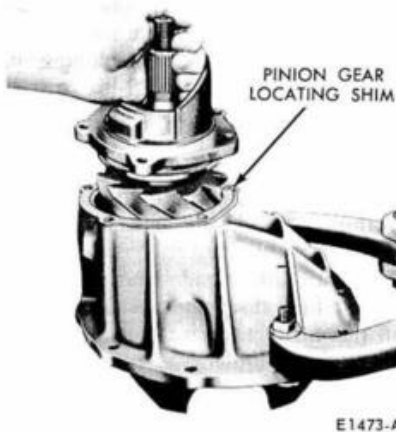

FIG. 48—Installing Pinion and Retainer
3. Remove the pinion, bearing, and retainer assembly from the carrier housing (Fig. 48). Measure the shim thickness with a micrometer. Record this original shim thickness. If a new gear set is installed during assembly, a new shim will have to be installed. The original shim thickness is one of the factors necessary in calculating the new shim thickness. **Extreme care must be taken not to damage the mounting surfaces of the retainer and carrier.**
4. Place the proper shim on the carrier housing and install the pinion and retainer assembly being careful not to pinch the O-ring (Fig. 48).